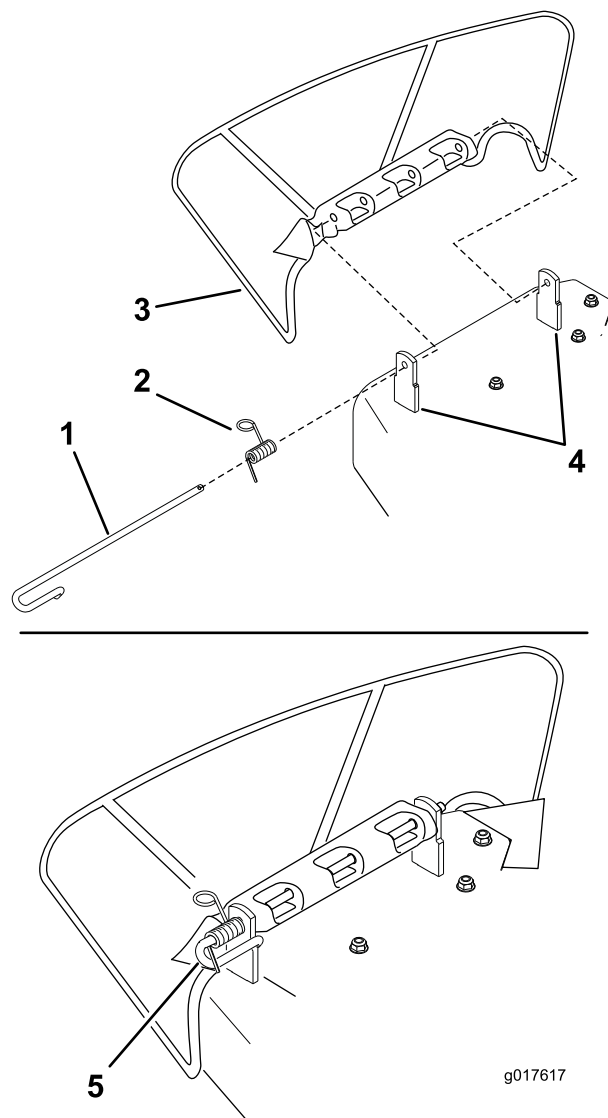

Figure 57
1. Disengage the spring from the notch in the deflector bracket and slide the rod out of the welded deck brackets, spring, and discharge deflector (Figure 57). Remove the damaged or worn discharge deflector.
2. Position the new discharge deflector with the bracket ends between the welded brackets on the deck as shown in Figure 57.